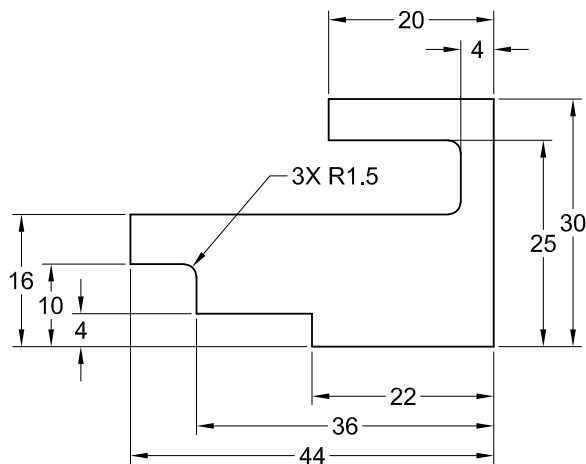
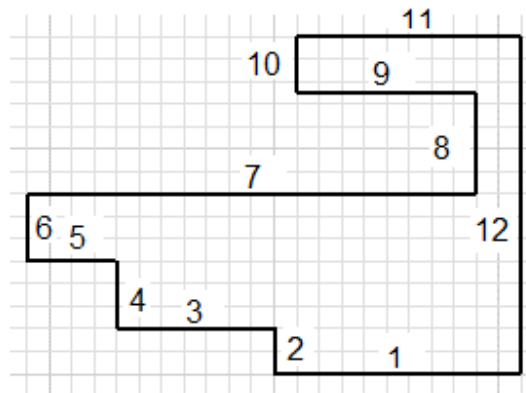

Figure 3-53 Sketch for Tutorial 2
Figure 3-54 Lines numbered in the sketch
In this tutorial, you will draw the sketch shown in Figure 3-53. This sketch is the same as the one drawn in Tutorial 4 of Chapter 2. After drawing it, you will apply the required constraints and dimensions to fully constrain it. **(Expected time: 30 min)**
- Invoke the Sketching environment and draw the initial sketch by using the **Line** tool, refer to Figure 3-54.
1. Draw the initial sketch, as shown in Figure 3-54, using the **Line** tool. The lines in the sketch are numbered for your reference.
The dimensions shown in Figure 3-53 are linear dimensions. As the sketch is for a revolved feature, you need to add linear diameter dimensions to it. It is recommended that you first apply all the dimensions and then add fillets to the sketch. This is because the size of a sketch generally changes after dimensioning. Before adding dimensions to a revolved section, it is important to determine which line segment of the sketch will act as the axis for revolving the sketch. If you refer to Figure 3-54, you will notice that line 1 acts as the axis to revolve the sketch for the model. Therefore, while applying linear diameter dimensions, line 1 should be selected first.
Figure 3-53 shows the value to be specified as 4 because the linear diameter dimensions are placed twice.